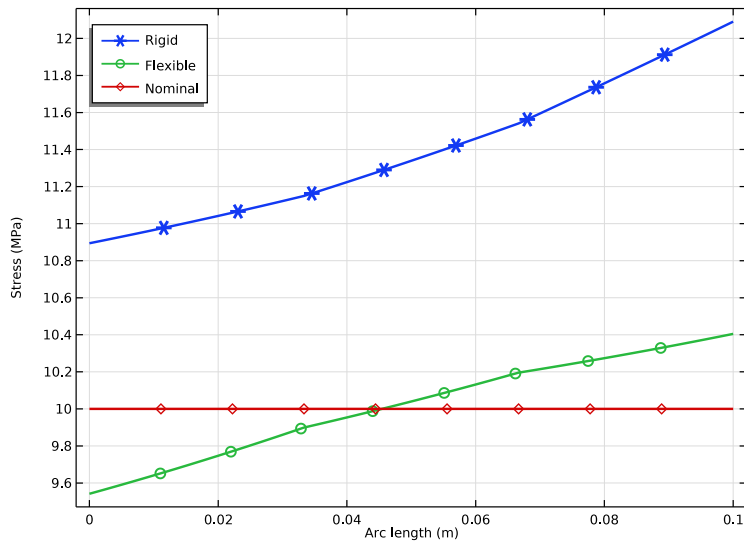

Figure 9: Hoop stress through the thickness at the transitions (pressure).
- The hoop stress at the transitions is shown in Figure 9. The nominal value represents the theoretical midsurface value. It can be seen that the predictions using the flexible connection are significantly better than when using the rigid connection.